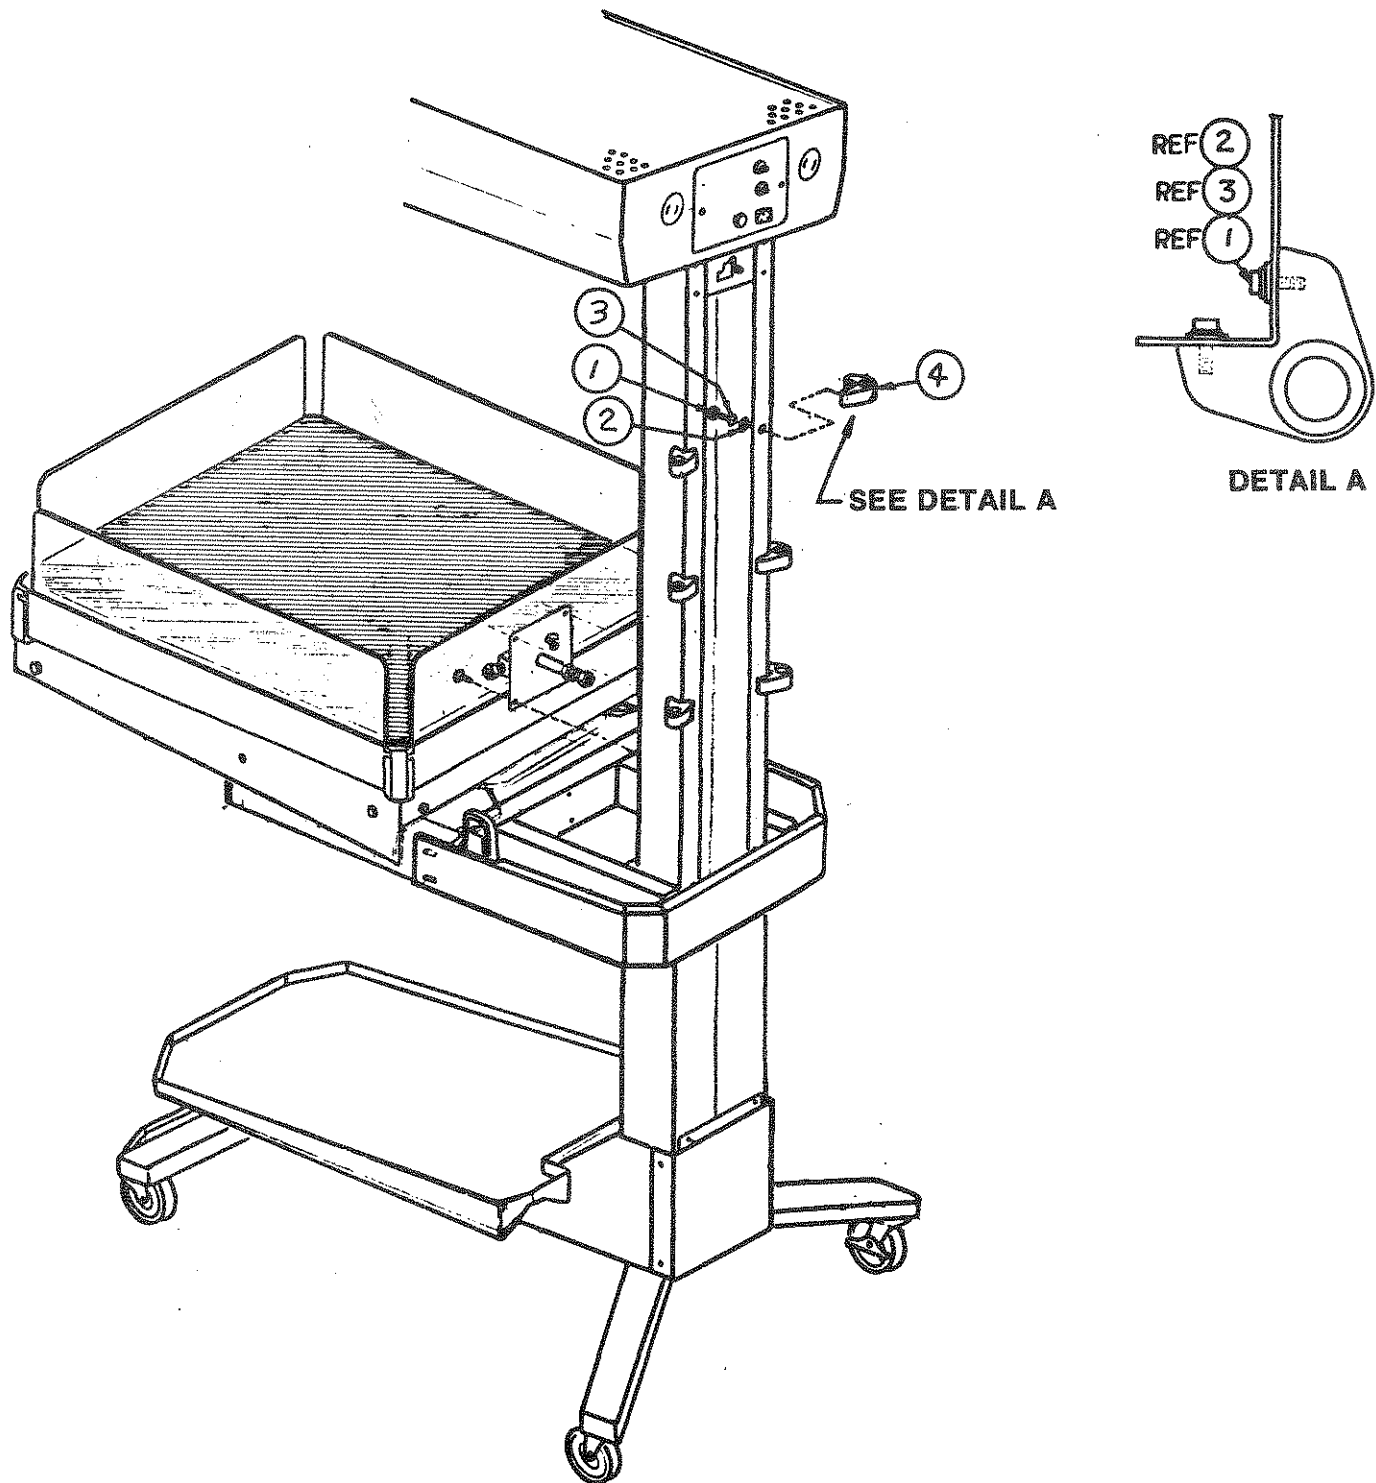

FIGURE 5.4 MOUNTING BRACKET REMOVAL AND REPLACEMENT
2. REFER TO FIGURE 5.4 and remove the two screws (1), flat washers (2), and lockwashers (3) that secure the mounting bracket (4) to the mounting post and remove the mounting bracket.